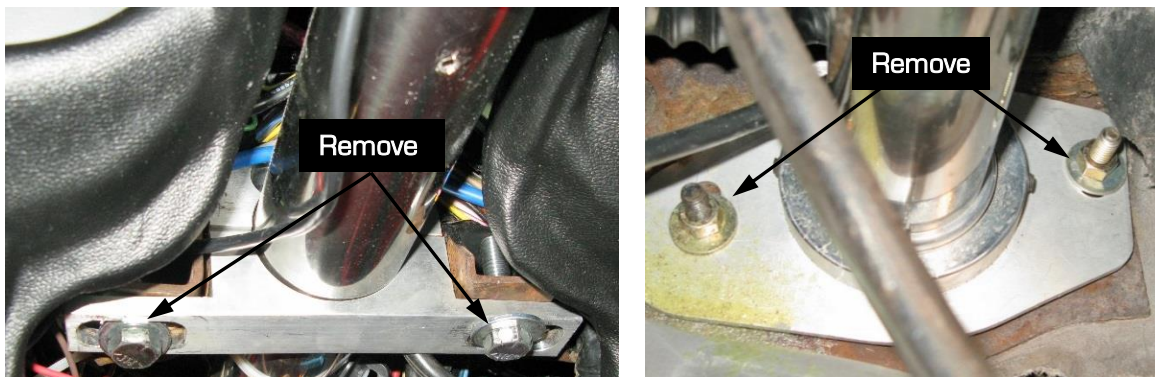

Figure 11 - Remove Steering Column Hardware
20. Remove the 2 bolts holding the steering column to the support brace, Remove the 2 carriage bolts from the lower part of the column (Figure 11). **NOTE:** The steering column used in the pictures below is from an aftermarket column.